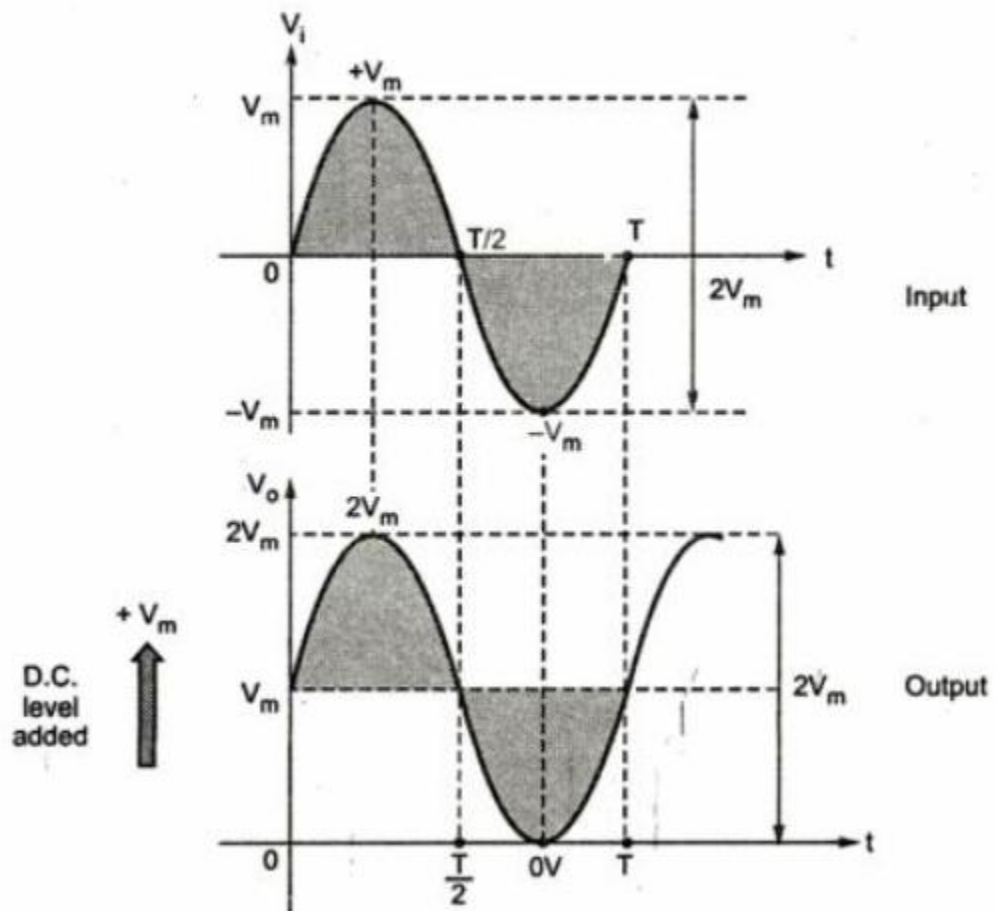

Fig. 1.70 Positive clamper waveforms
- Assuming ideal diode, the input and output waveforms are shown in the fig. 1.70.